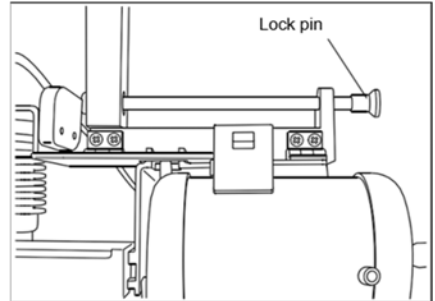
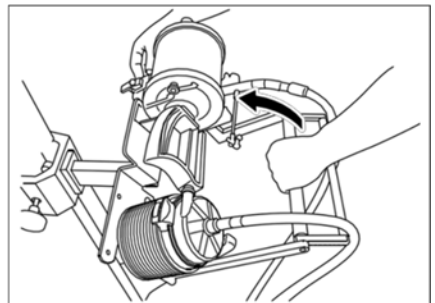

Figure 10
Figure 11
7. Unlock the rotation of the exclusive holder (XX*EB04) (Figure 10) and rotate the whole holder 90 degrees (Figure 11).